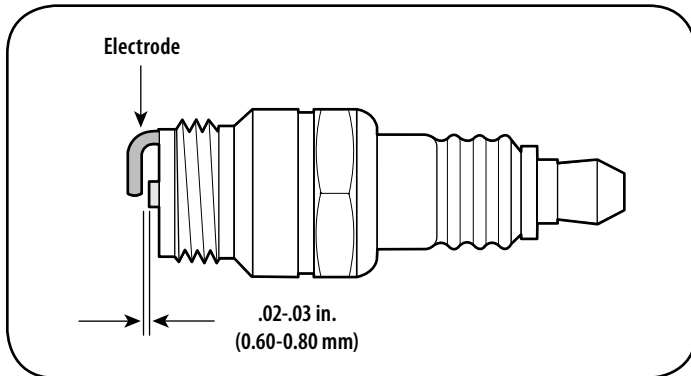

Figure 44
- Measure the plug gap with a feeler gauge. Correct as necessary by bending side electrode. See Figure 44. The gap should be set to .02-.03 inches (0.60-0.80 mm).